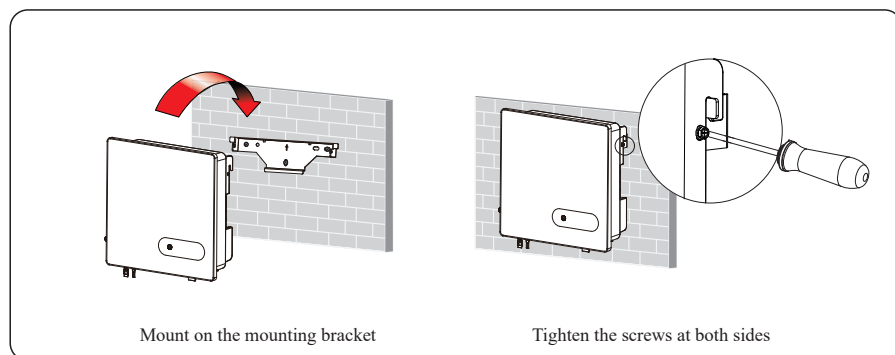

Figure 4.14 Securing the inverter
Step 2 Mount the inverter on the mounting bracket and keep them aligned with each other, as shown in Figure 4.14.
Step 3 Tighten the two hexagon screws at the both sides of the inverter to a torque of $1.2\text{N}\cdot\text{m}$. Screw specs is M4, as shown in Figure 4.14.